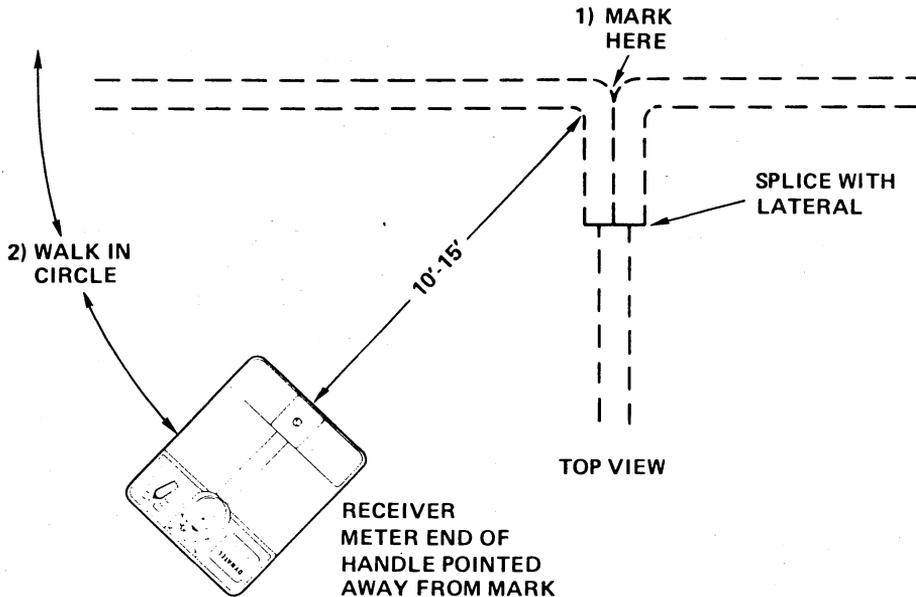

Figure 5-6. Locating Laterals, Drops from Splice, Encapsulation, Riser, etc.
UNKNOWN LATERALS (See Figure 5-6)
5.24 With the Receiver in PEAK/EXT Mode, walk 10-25 feet away from the marker. Walk in a circle around the mark, pointing the Receiver handle at the marker at all times, exactly as shown in Figure 5-6.
5.27 Set the Receiver to PEAK/EXT. Then circle the closure at a distance of 10-25 feet, keeping the Receiver pointed away from the closure as shown in Figure 5-6.